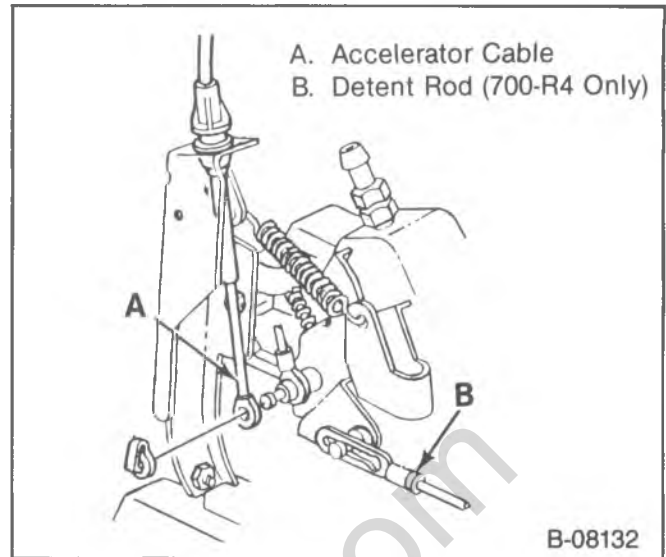

Figure 9—Accelerator Linkage
4. Accelerator cable at the injection pump (figure 9).